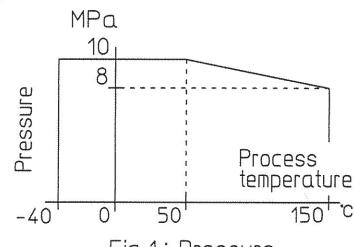

Fig.1: Pressure
(1) Working pressure : -101 kPa to 10 MPa (Fig. 1)